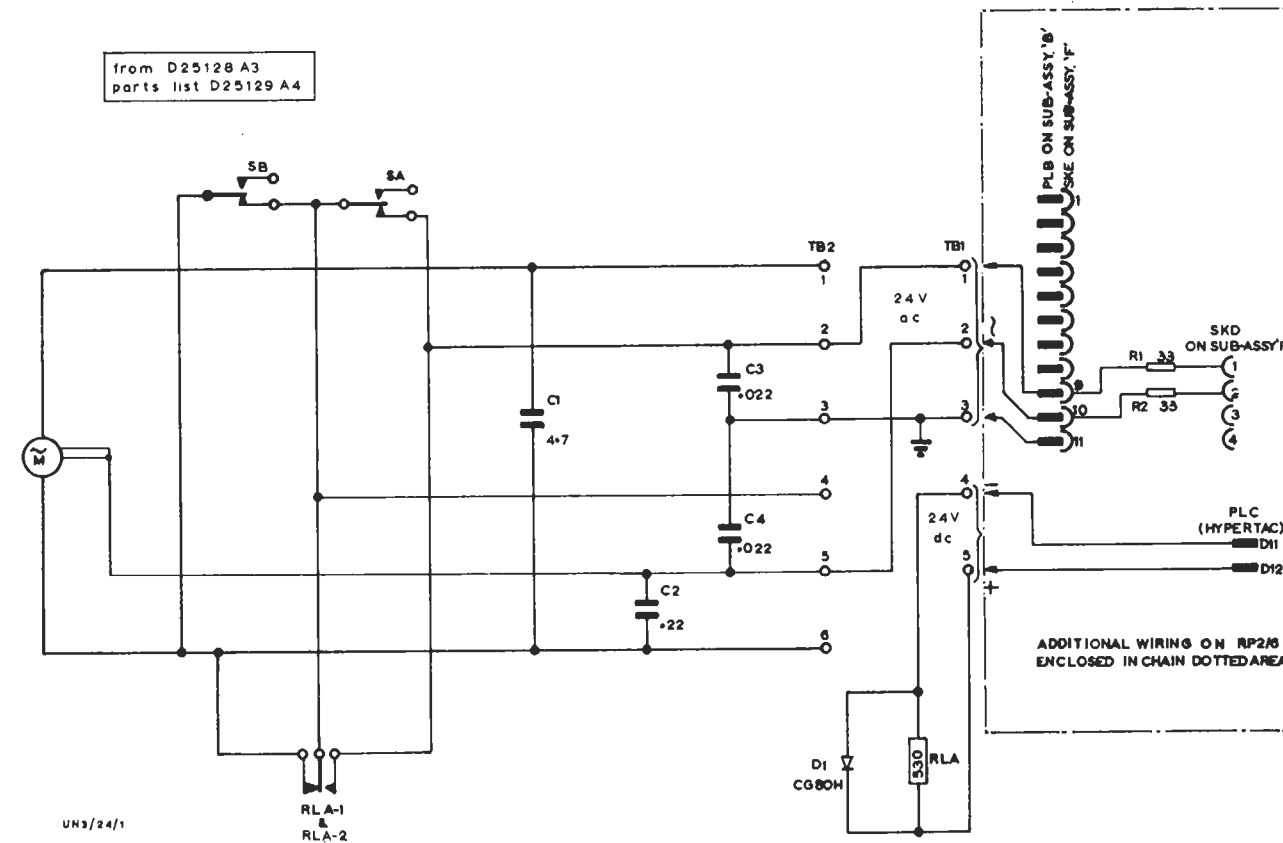

Fig. 2. Circuit of the UN3/24
as governed by the positions of two microswitches, SA and SB; when either of these is operated by cam-screw (18), the supply to the motor is interrupted and the cam stops. The motor is restarted by completing the circuit through relay RLA (Fig. 2), when the cam continues until the other microswitch operates.
Circuit Description (Fig. 2)